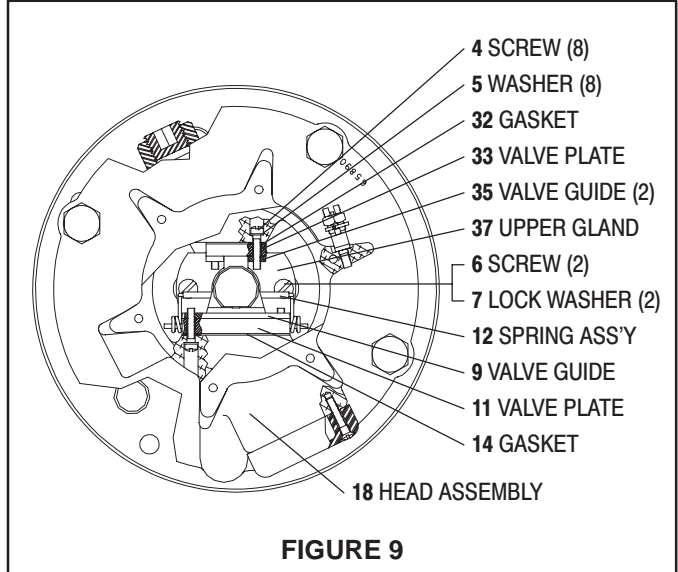

FIGURE 9
- 35. Push the assembled (42) piston adapter and (31) valve piston down thru the 90350 installation tool until they bottom.
- 37. Install the (37) upper gland over the (31) valve piston and push down, being careful to retain the (38) seal in the "O" ring groove.
- 38. Align the two bolt holes and secure the (37) upper gland to the (18) head assembly with the two (6) machine screws and two (7) lock washers (see figure 9).
- 40. Thoroughly grease and insert the (34) pilot insert, two (35) valve guides, (33) valve plate and (32) gasket into the (18) head assembly (see figure 9).
- 43. Hook the round coils in the (12) insert spring assembly over the pins in the (11) valve plate and pin assembly (see figure 9).
- 44. Hook the bottoms of the (12) insert spring assembly into the holes on the side of the (11) valve plate and pin assembly.
- 45. Insert the (9) valve guide against the face of the (11) valve plate and pin assembly. The legs of the (9) valve guide should be down, with the leg having the threaded hole the farthest from the bottom toward the air inlet in the (18) head assembly.